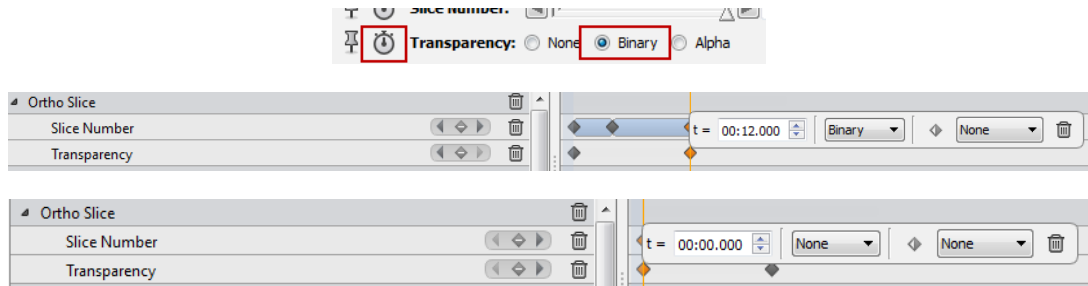

Figure 9.13: Changing the Ortho Slice Transparency Mode
3. Move the master time slider to 00:00, then set the Ortho Slice Transparency to **None** (See Figure 9.13).